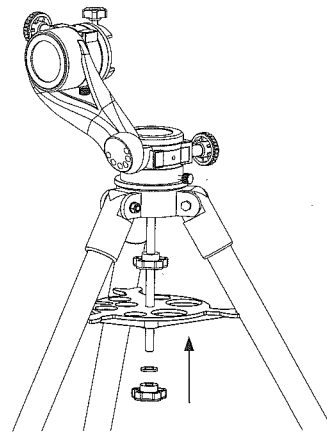

Fig. 1.2c
5. Slide the accessory bracket along the locking shaft until its three tips push against the tripod legs and secure the bracket with the washer and the locking screw (Fig. 1.2c).